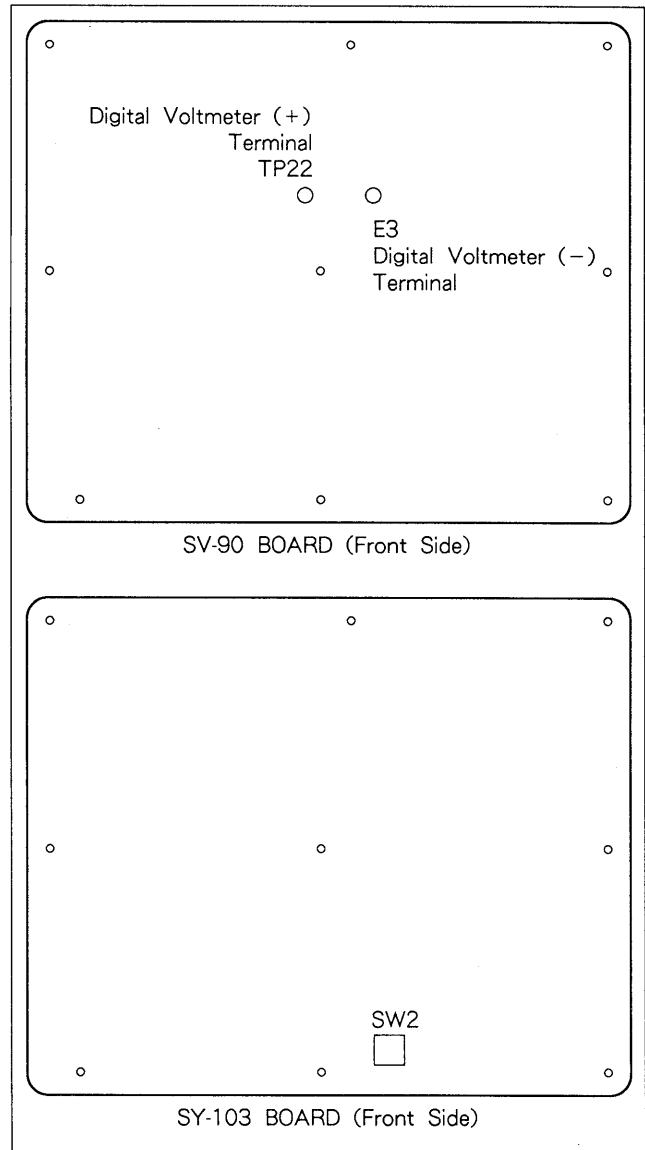

Fig. 9-2-6. Connection of Digital Voltmeter
- (2) Connect digital voltmeter to TP22 and E3 (GND) on the SV-90 board as shown in Fig. 9-2-6 and turn the power ON.
- (3) While pressing the SW2 on the SY-103 board, press **[0]** of the 21-key section. (Or referring to section 3-3, set the TTP ADJ menu.) With above operations, the following message will be appeared on the control panel display.